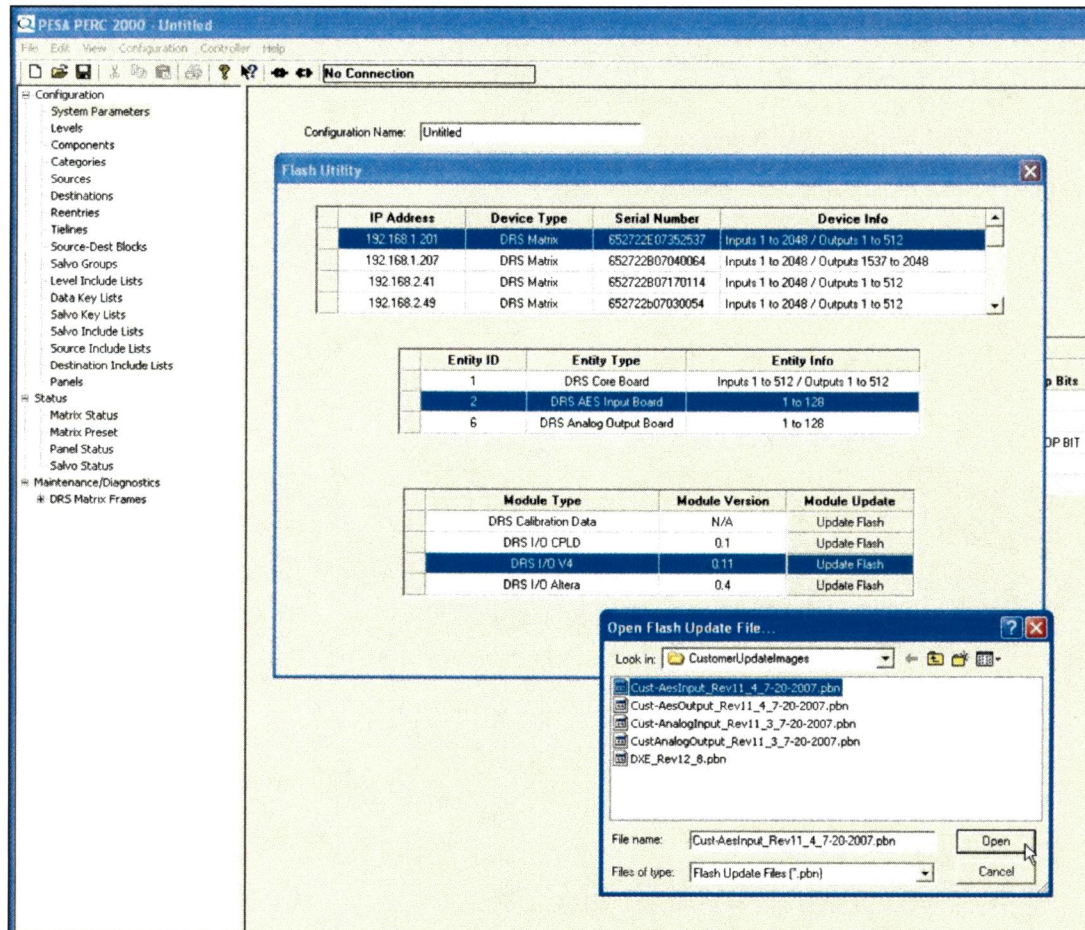

Figure 45. Open Flash Update File Browse Box
13. The Open Flash Update File window is displayed, Figure 45. Browse to the folder named DRS that you created in Paragraph 4 and open the folder named “CustomerUpdateImages.” For our example, since we are reprogramming an AES Input board, locate and click on the file named **Cust-AesInput_Rev11_4_7-20-2007.pbn**. The file will appear in the File Name box. Click the **Open** button on the window.